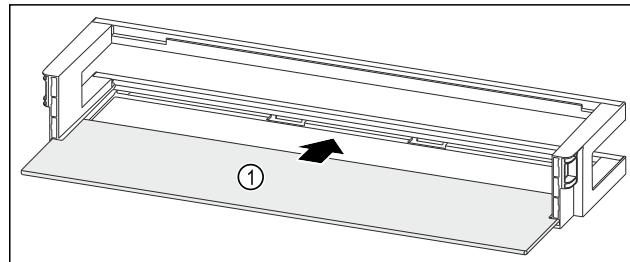

Fig. 82 Door racks with shelf
- Push the shelf Fig. 82 (1) into the side cutouts.